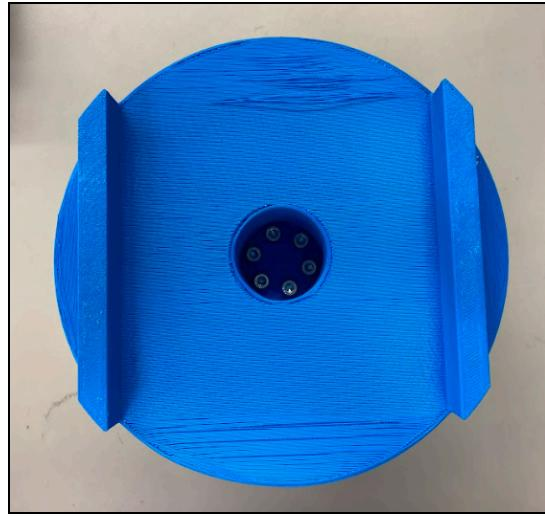

Figure 8: Securing J1 Mushroom Cap to J1 Motor Shaft
- Using 6 M4x10mm screws , fasten the J1 Mushroom Cap to the motor shaft by screwing through the inner ring of holes on the J1 Mushroom Cap into the motor shaft (See Figure 8). For the best results fasten the screws in opposite holes rather than in one clockwise/counterclockwise motion. As this can cause alignment issues. If you are having issues placing the fasteners into the holes. Utilize needle nose pliers for assistance.